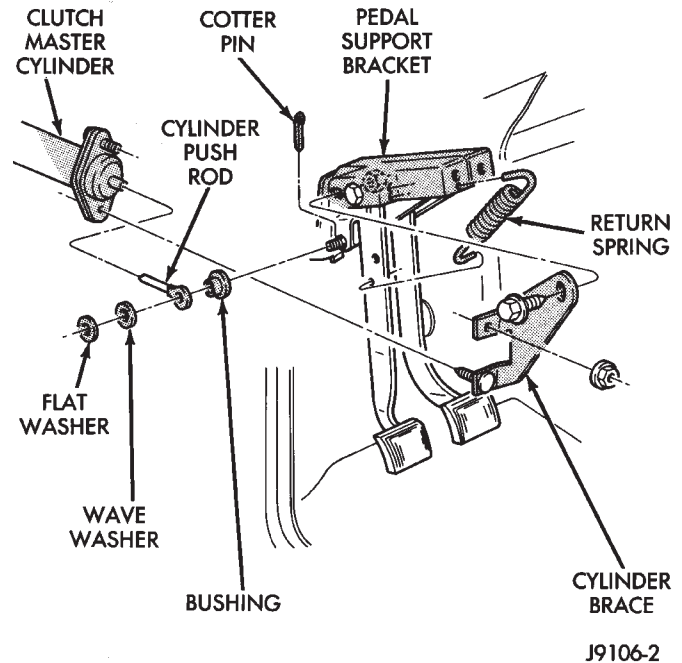

Fig. 15 Clutch Pedal Mounting (XJ)
- (1) Remove instrument panel lower trim cover for extra working clearance.
- (2) Remove retainer clip and washers that attach clutch master cylinder push rod to pedal.
- (3) On YJ, remove retaining ring securing pedal to pivot shaft (Fig. 14). On XJ, remove nut securing pedal to pivot shaft (Fig. 15).
- (4) Move pedal pivot shaft to right and slide pedal off shaft.